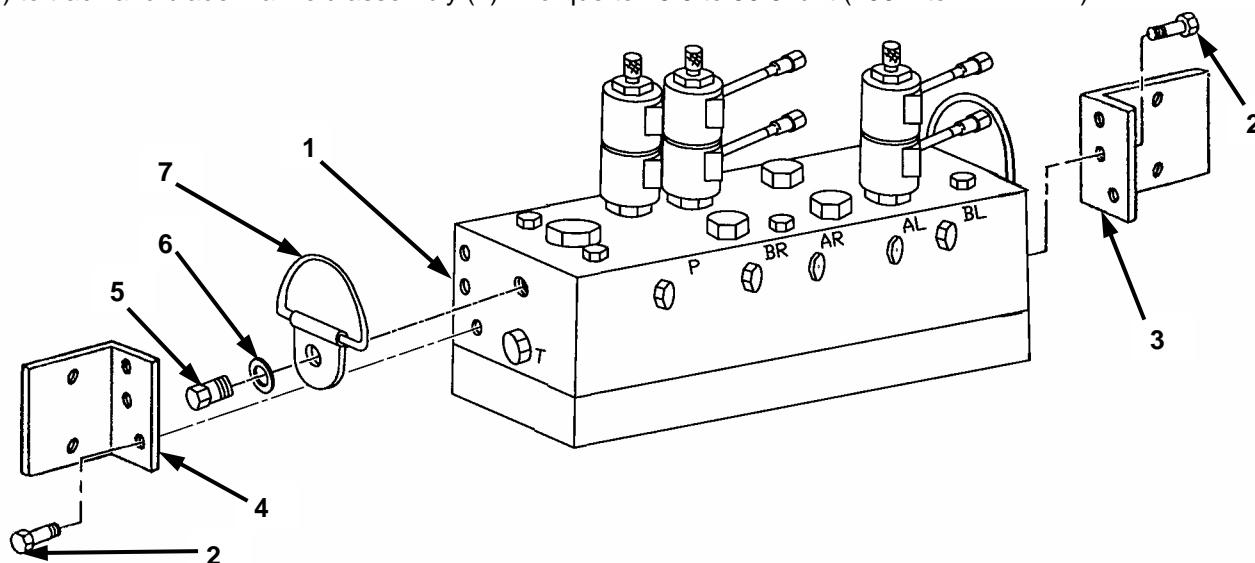

Figure 2-17. Tie Downs.
9. Install two tie downs 12342077 (Figure 2-17, 7), flat washers MS27183-14 (6), and screws B1821BH038C075N (5) to track and blade manifold assembly (1). Torque to 45.0 to 50.0 lb-ft (200.1 to 222.4 N•m).